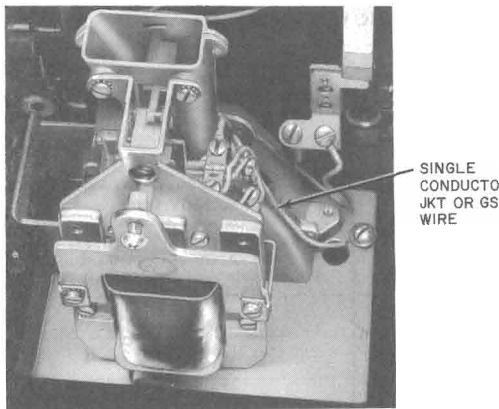

Fig. 14—Method of Grounding Coin Collector Housing Assembly, Open Type Installation
- Connect JKT lead or GS insulated wire as shown in Fig. 14.